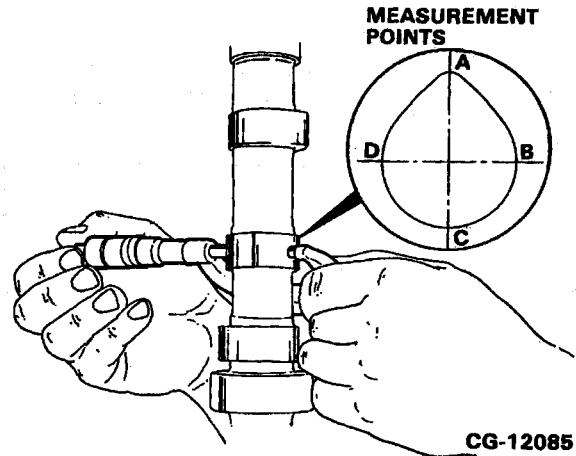

Figure 5.19. Measure Camshaft Lobes
- a. Check camshaft lobe wear using a micrometer as follows: Refer to Figure 5.19.
1. Measure across (A-C) and across (B-D). Refer to Figure 5.19.